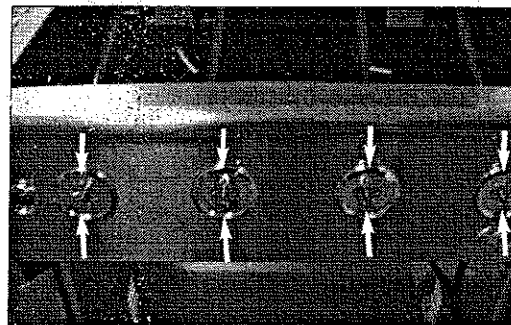

Fig 12
12. Remove all the knobs, set the knobs aside. (See Fig. 12)
13. Remove the screws holding the main burner knob bezels to the front face and remove the bezels. (See Fig. 12)
20. Reattach the bezels to the manifold with the screws removed in Step 11. Make sure that "off" is facing up on the bezel. (See Fig. 12 on previous page)